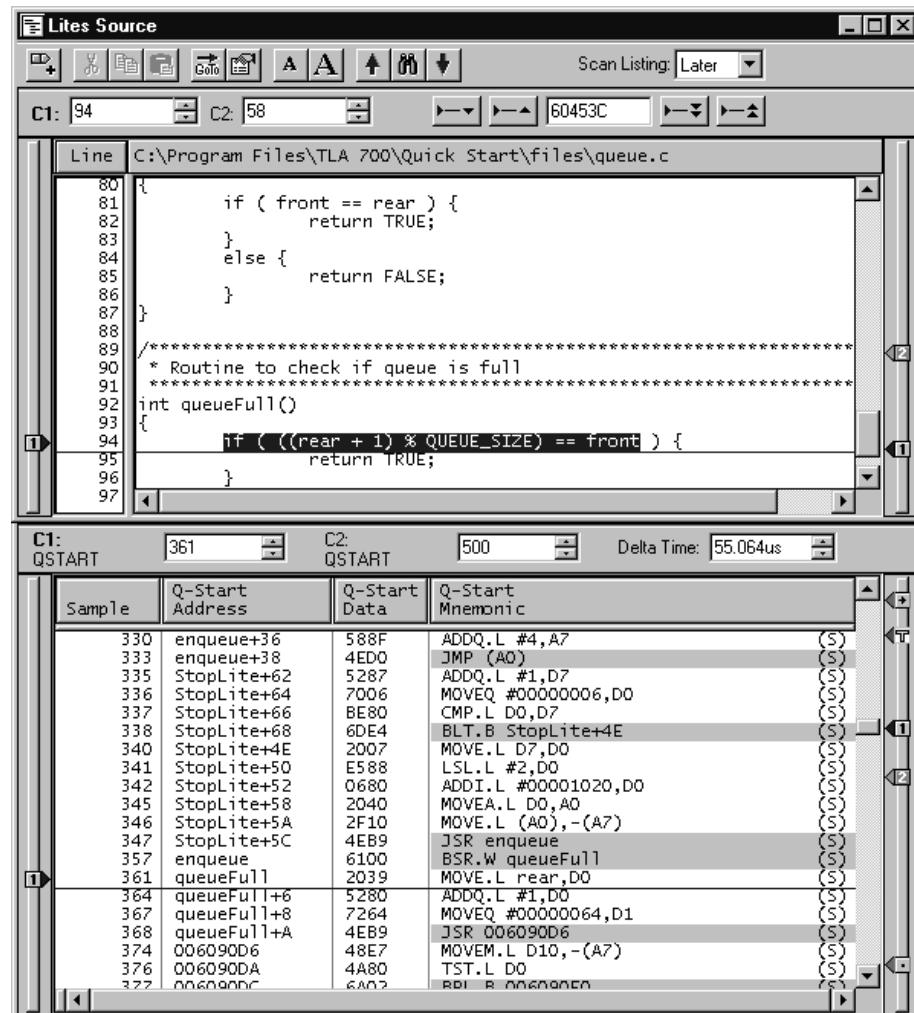

Figure 4-11: Source and Listing windows after stepping forward twice
1. After you have placed a mark at line 61 in the current source (stoplite.c), step down the enqueue() routine two levels by clicking on the Step Forward button in the Source window twice. Figure 4-11 shows the results of this operation.